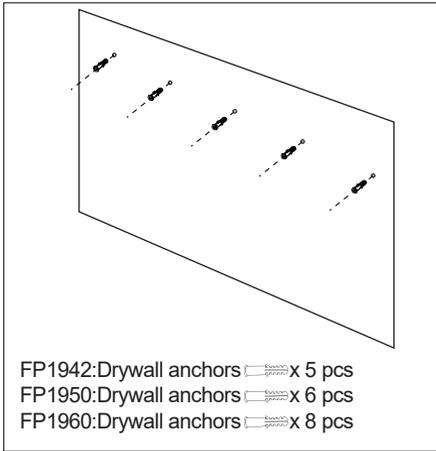

fig.6
1. Drill holes in the wall and install dry wall anchors on the wall. (fig.6)
5. Drill 5 holes on the wall and install 5 dry wall anchors on the wall.(fig.6)